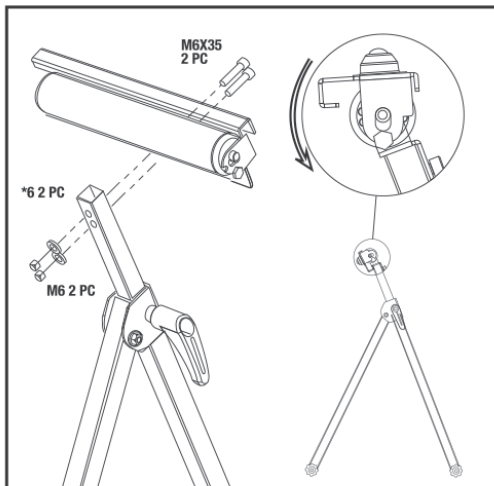

Fig. 3
5. Attach the roller/bearing head (Fig.3)